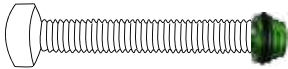

Fig 12
- Push the screw until the screw head is flush with the flush arrow shaft. (Fig 12)